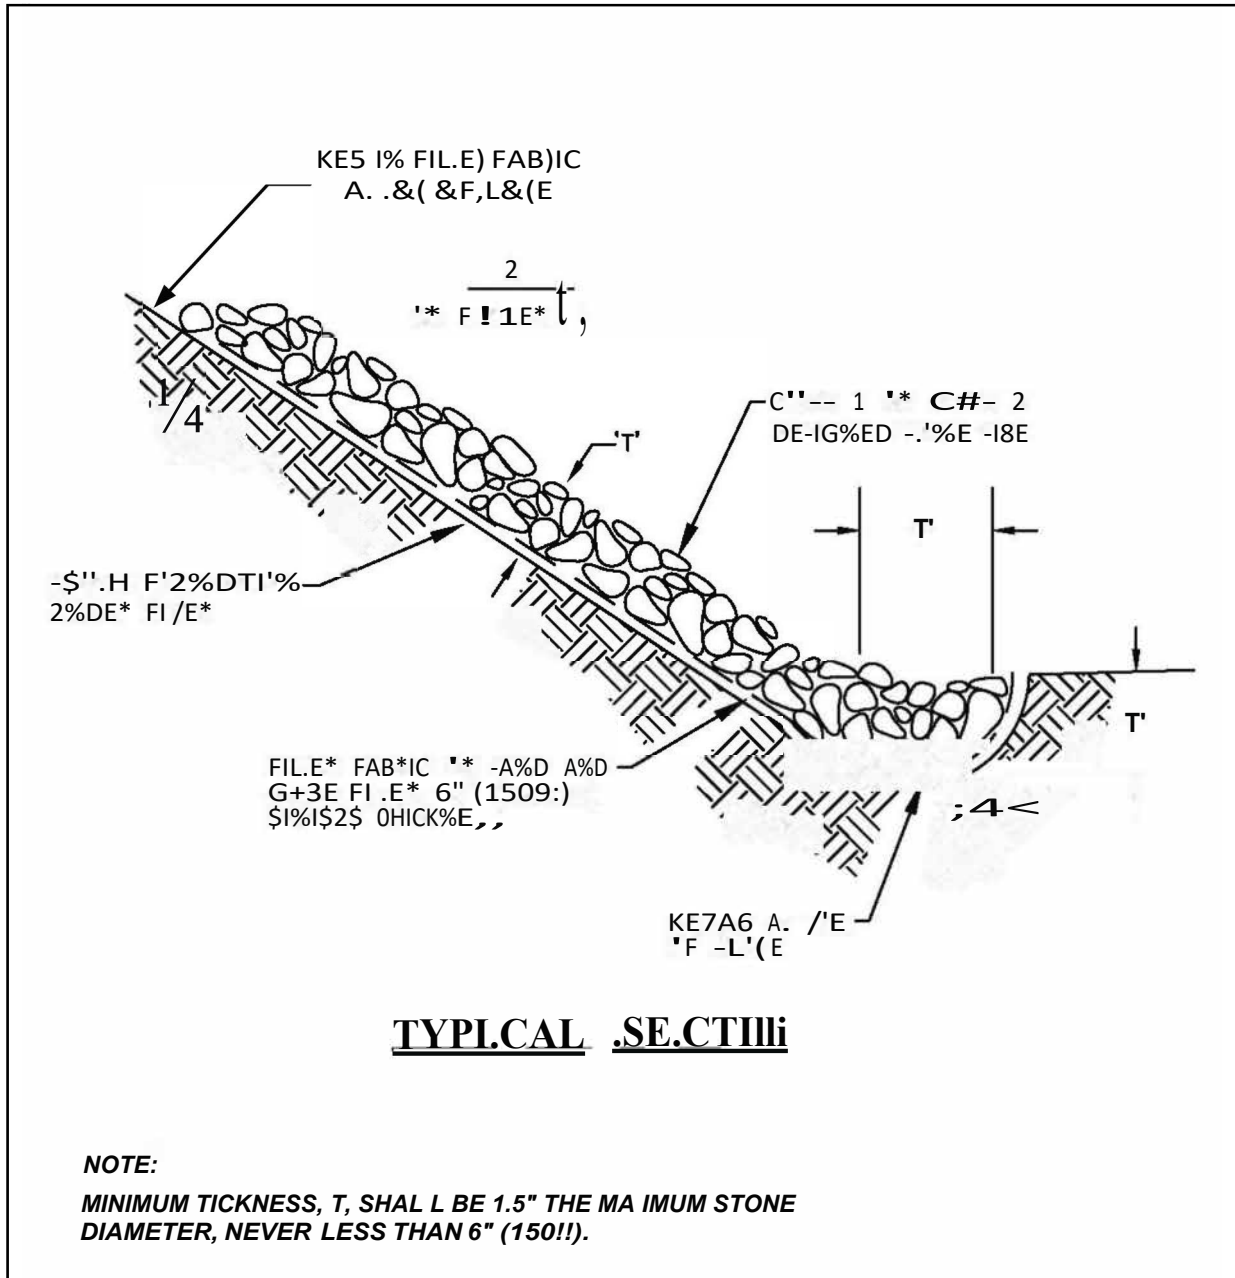

Figure 3 - 11: Soil Erosion Protection – Rip Rap Protection
- Since riprap is used where erosion potential is high, construction must be sequenced so the riprap is put in place with the minimum possible delay (see Figure 3 - 11: Soil Erosion Protection – Rip Rap Protection).